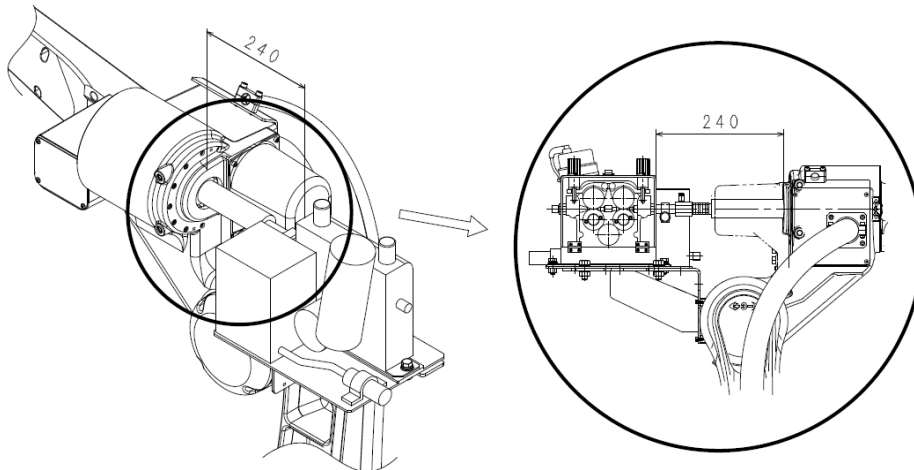

Figure 2.11 Fixing position of wire feeder (manufactured by TOKIN G-type)
4. Moving the wire feeder backward, pull the all-in-one power cable so that it does not have slack, arrange it in the position shown in the Figure 2.11, and fix it by tightening two hexagon head bolts (M10×30).